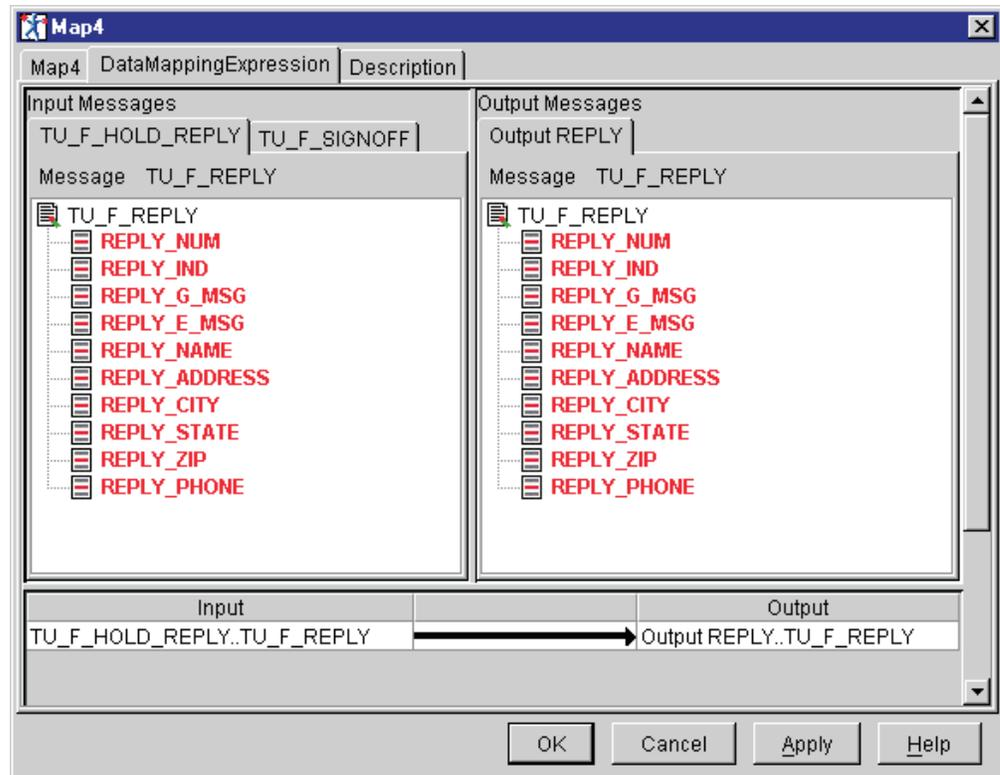

Figure 172. Mapping for Map4 node
- 4) Perform the mapping for the Map4 node as shown in Figure 172 on page 221 .
Select the TU\_F\_HOLD\_REPLY message tab (Input Messages) and Output REPLY message tab (Output Messages). Left click on the TU\_F\_REPLY message under the TU\_F\_HOLD\_REPLY message tab and drag the mouse cursor to the TU\_F\_REPLY message under the Output REPLY message tab. This will create a mapping between the two messages (see Figure 172 on page 221). Click **OK**.